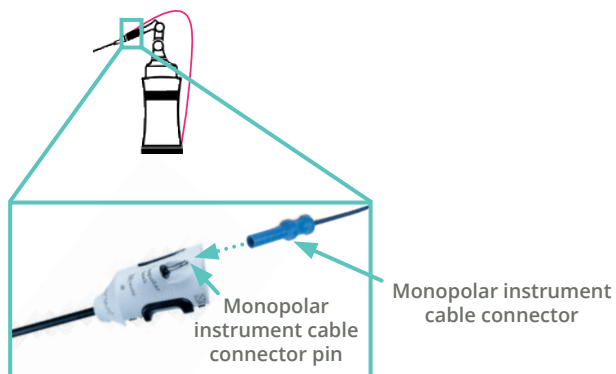

Figure 10.10 *Connecting the monopolar instrument cable to the instrument*
1. The connector pin on the monopolar instrument (Figure 10.10)